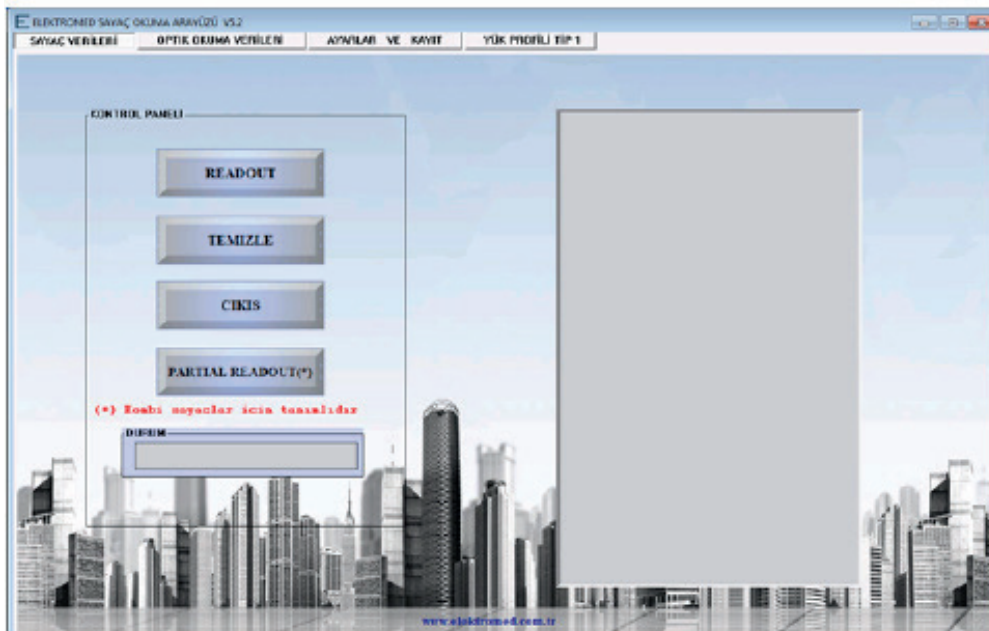

Figure-3
10) Having completed the COMPORT settings, go to the “METER DATA” and use the command READOUT to access the meter data. (Figure-3)